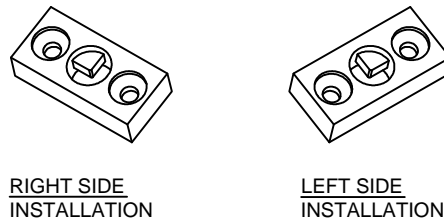

FIG.1B
- The bottom plate of the bottom hinge (#13) must be installed accordingly to the door direction opening as there is a built in door stopper to prevent possible glass breakage. If this is not done properly the install will be incorrect and may cause harm. Please see the figure below for the proper configuration. [SEE FIG.1B]